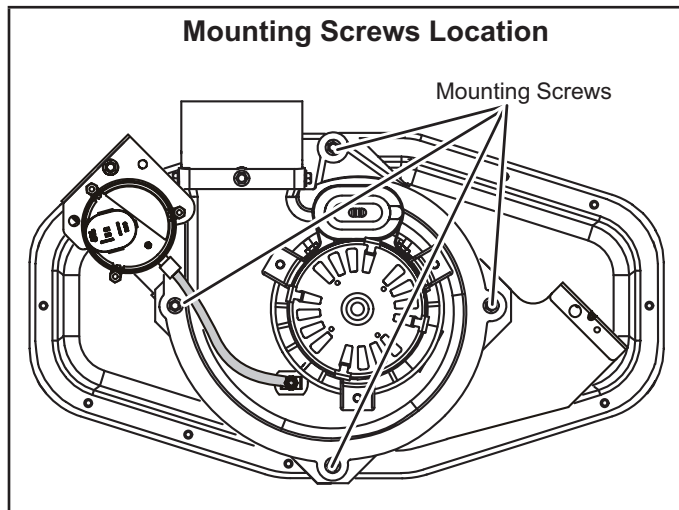

FIGURE 15
- 1 - Remove the four mounting screws which secure the combustion air inducer / pressure switch assembly to the orifice plate. See figure 15. Lift and rotate the assembly 90 degrees clockwise or counter clockwise to either the 3 o'clock position or to 9 o'clock position and re-secure with four screws. Gasket should be left in place.